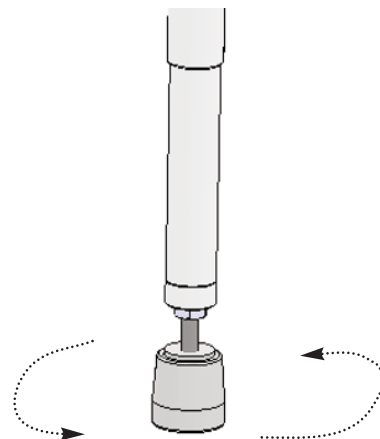

Figure 27
**E Leveling:** The roll-in and tub sections must both be level and equal in height. To further adjust the height on the tub section legs, rotate the crutch tip feet clockwise or counterclockwise (Refer to Figure 27).